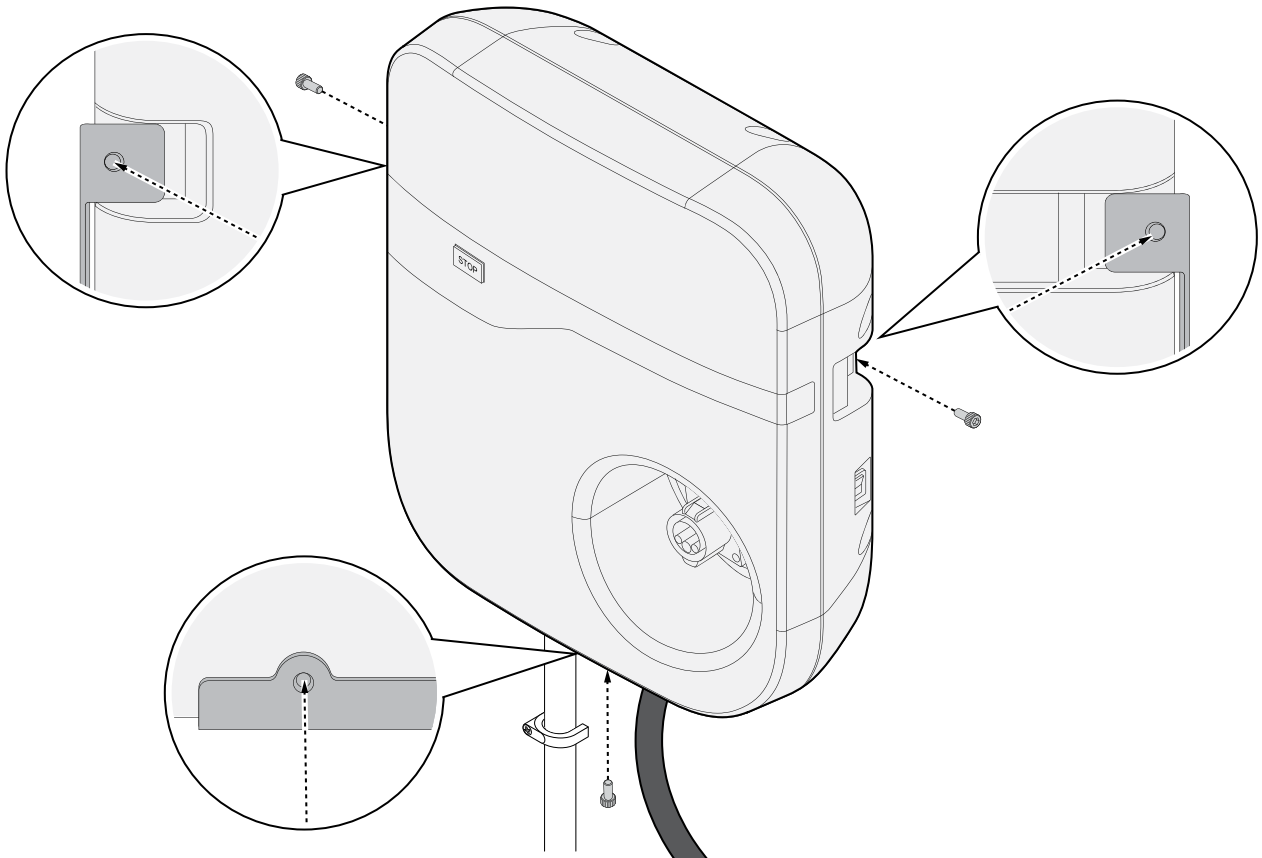

Figure 4-6. Installation screw locations
6. See Figure 4-6. Install and secure the charging station to the mounting bracket with the three (3) screws supplied.